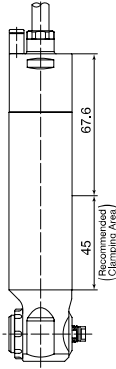

Fig. 11
- 1 When mounting the spindle avoid the area where bearings are located. If the spindle is mounted inappropriately, this will cause and damage to the spindle. (Refer to the recommended clamping area drawing in Fig. 11)